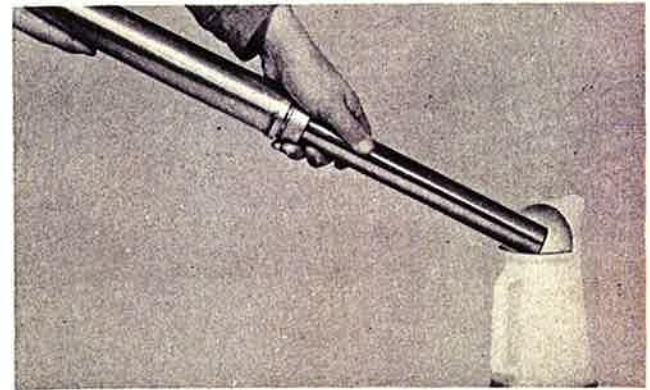

Fig. 5-6-2
2. Remove the caps and drain the oil from both fork tubes. (Fig. 5-6-2)